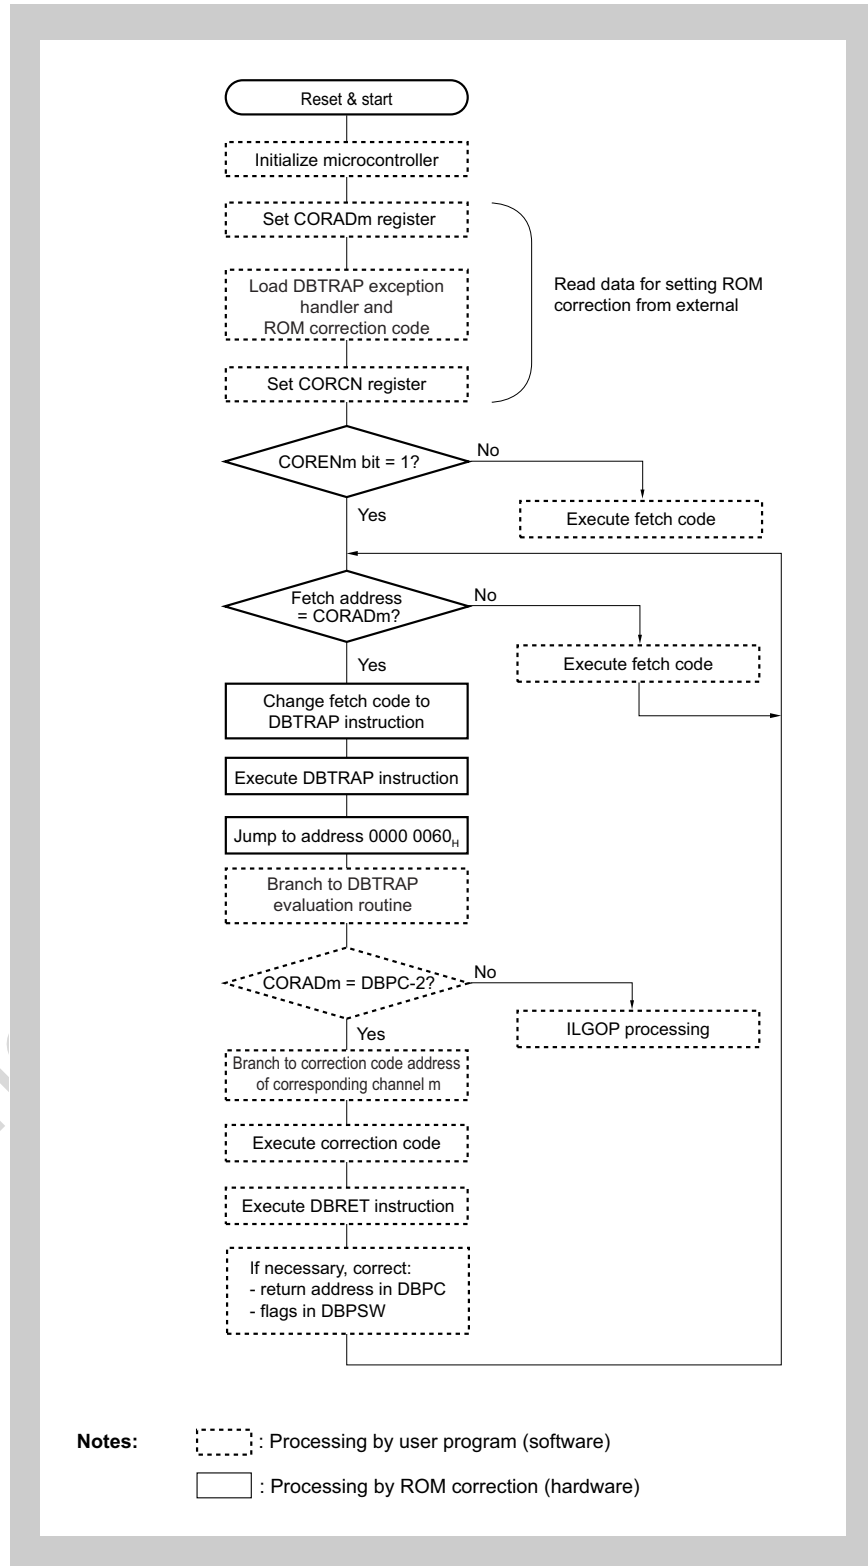

Figure 9-2 ROM correction operation and program flow
*Figure 9-2* outlines a typical program flow for using the “DBTRAP” ROM correction.